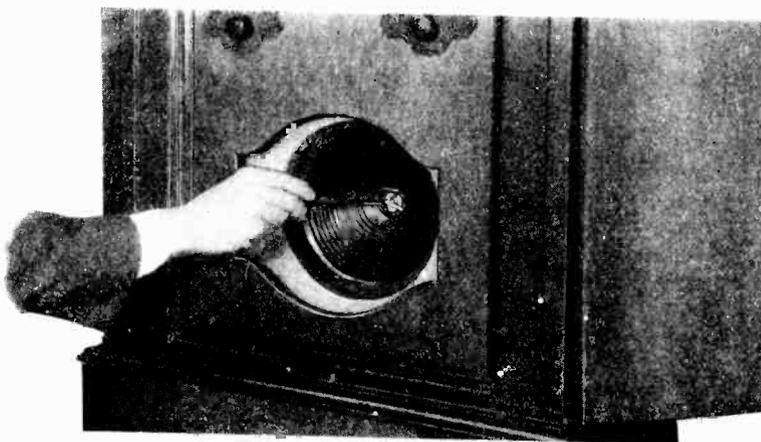

Figure 17—Adjusting the position of the cone
- (c) Insert three cardboard strips about the thickness of a visiting card,  $1\frac{1}{2}$ " x  $\frac{1}{4}$ " in size, through the center web of the cone into the space between the pole piece and the cone (Figure 17). This will give the cone coil the same clearance on all sides of the pole piece.